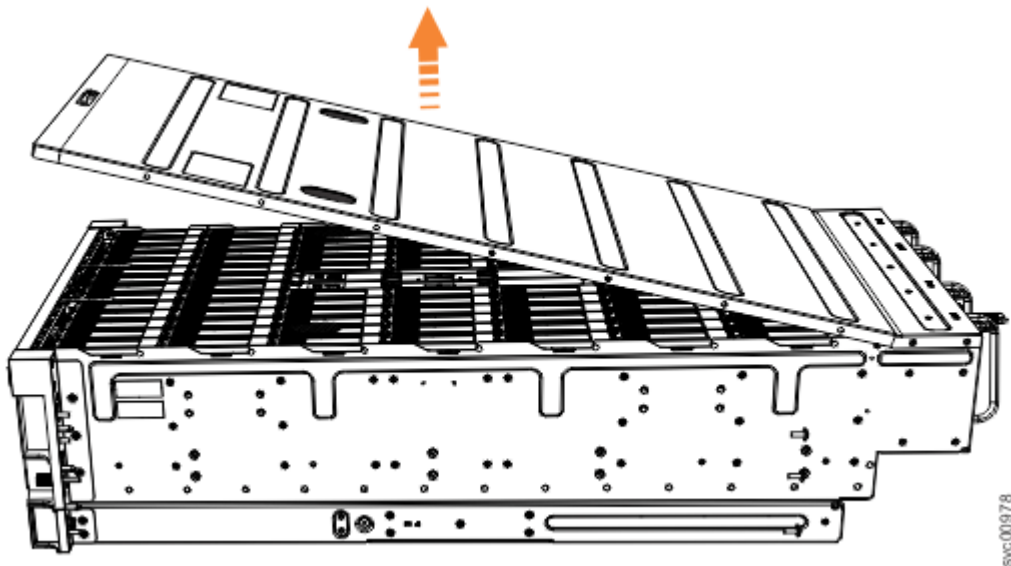

Figure 29. Removing the 5U expansion enclosure cover
3. Carefully lift the cover up, as shown in Figure 29 on page 39.